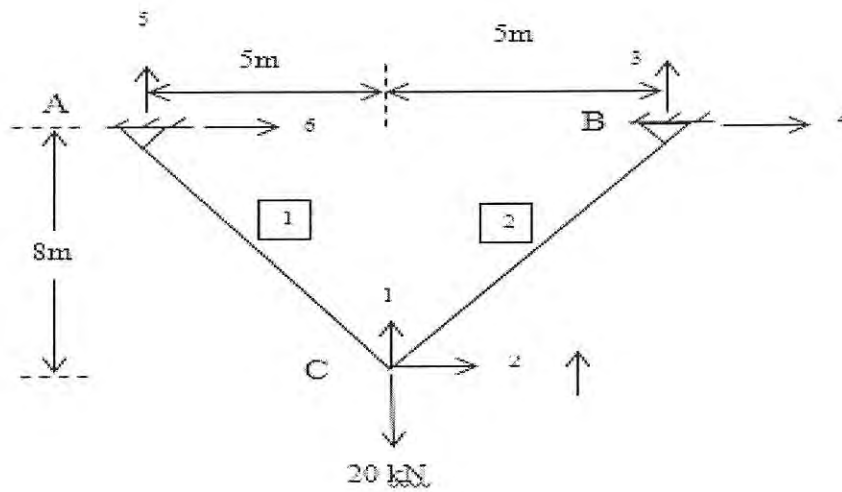

FIGURE Q3
- Q3** A two member truss system is loaded with 20 kN point load at point C as shown in **Figure Q3**. The length of AC is similar to the length of BC. The height of the truss is 8 m . EA is constant for each member. By using Direct Stiffness Method,